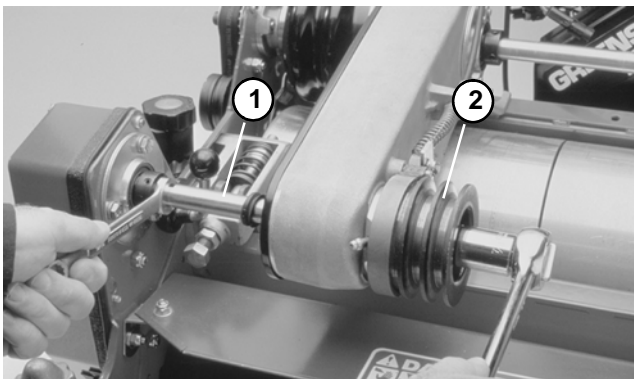

Figure 53
6. Use 9/16-inch open end wrench to hold the power shaft while backing off the lock nut with a 7/8-inch socket (Fig. 53).